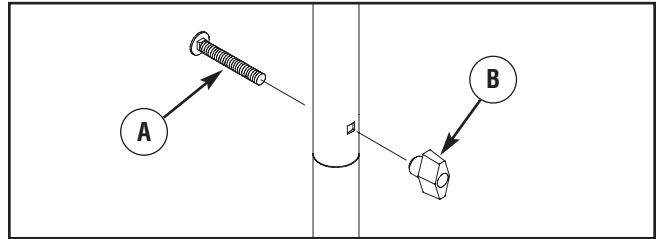

Figure 2 — Secure Handle
2. Insert carriage bolts (A) through holes from back of unit and attach a plastic knob (B) from front of unit. Tighten by hand (see Figure 2).